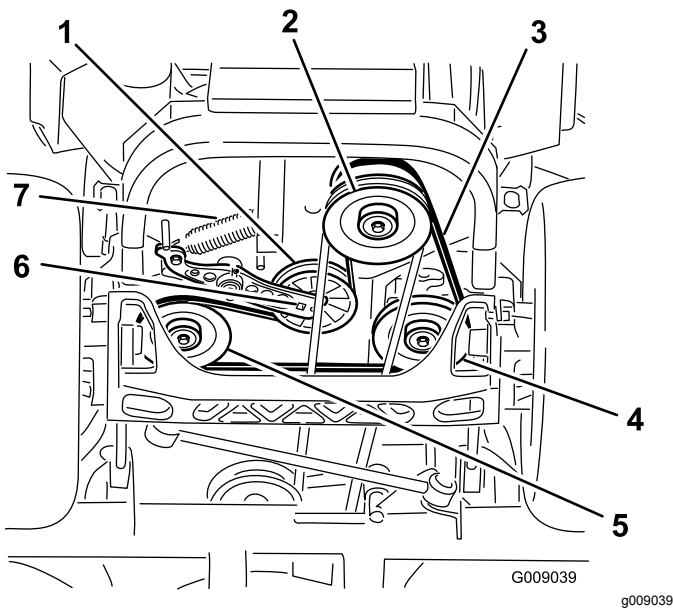

Figure 88
4. Raise the machine and support it with jack stands (Figure 88).
5. Use a ratchet in the square hole in the idler arm to remove the idler spring (Figure 88).
6. Unhook the idler spring from the frame (Figure 88).
9. Using a ratchet in the square hole in the idler arm, install the idler spring to the frame (Figure 88).